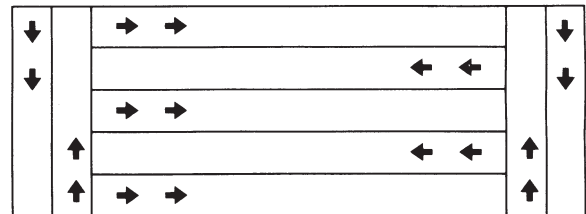

FIGURE 27
4. For easiest application, first apply material across both ends of the area. Two or three passes on each end are sufficient. Then apply material back and forth as shown. Use the end areas for turning around, shutting off the spreader as you enter the end areas and turning the spreader on again as you leave the end areas for your next pass. See figure 27.